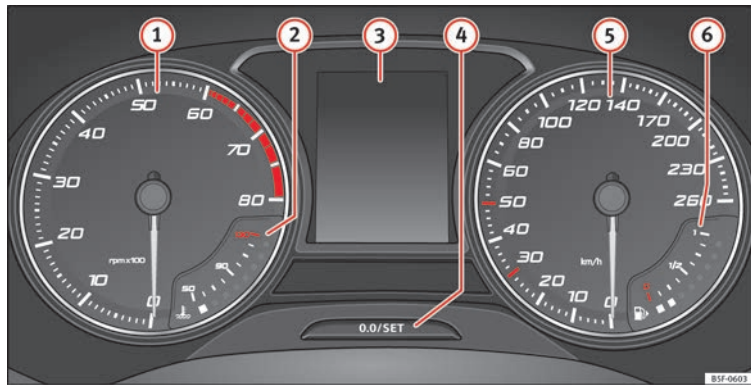

Fig. 105 Instrument panel, on dash panel.
The rev counter indicates the number of engine revolutions per minute » **Fig. 105 ①**.
Never allow the rev counter needle **①** » **Fig. 105** to go into the red zone on the scale for more than a very brief period, otherwise there is a risk of engine damage.
A variety of information can be viewed on the instrument panel display » **Fig. 105 ③** depending on the vehicle equipment:
- Briefly press the button » **Fig. 105 ④** to reset the trip recorder to 0.
- Keep the button **④** pressed for about 3 seconds and the previous value will be displayed.
- To set the time, keep the button » **Fig. 105 ④** pressed for more than 3 seconds to select the hour or minute display.
- To continue setting the time, press the upper or lower part of the button **④**. Hold button down to scroll through the numbers quickly.
- Press the button **④** again in order to finish setting the time. **»**
Hold the button » **Fig. 105**  down for more than 15 seconds to display the identifying letters of the vehicle engine (MKB). To do this, the ignition must be switched on and the engine switched off.
The coolant temperature gauge **②** » **Fig. 105** only works when the ignition is switched on. In order to avoid engine damage, please read the following notes for the different temperature ranges.
The display **⑥** » **Fig. 105** only works when the ignition is switched on. When the display reaches the reserve mark, the lower diode lights up in red and the control lamp **⚡** appears » **page 88**. When the fuel level is very low, the lower diode flashes in red. »
The distance to empty fuel level is displayed on the instrument panel  **Fig. 105**.